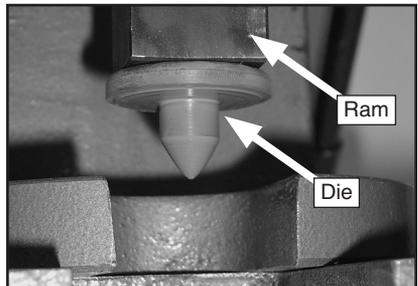

Figure 5. Custom die installed in ram.
4. Push the die into the ram. It is a friction fit. **Figure 5** shows a die properly installed.